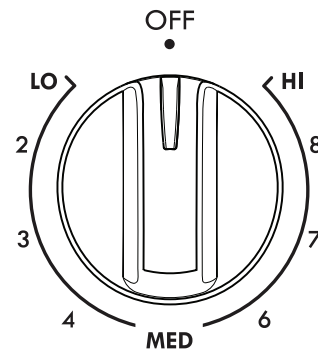

Figure 9: Single radiant element
- Push in and turn the surface control knob in either direction to the desired setting (See Figure 9).
2. Push in and turn the surface control knob clockwise to begin heating both the inner and outer portions of the element marked dual (See Figure 9).